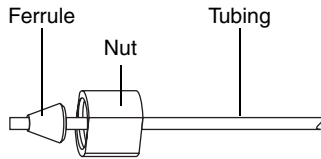

Figure 4-3 Preparing a bulkhead fitting connection
- a. Connect the cut end of the black tubing to the Rf 200 system Diverter Valve Waste port. Use a black nut and ferrule from the accessory package as shown in Figure 4-3. Finger-tighten the nut to seat the ferrule in the bulkhead fitting.